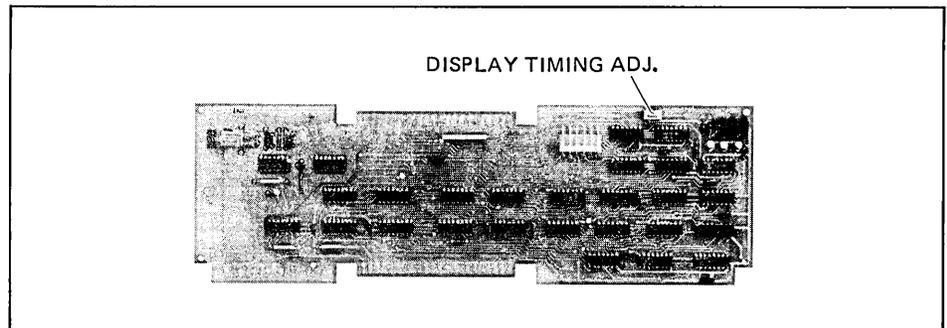

Figure 5-7. Display Timing PCA Timing Adjustment Location
1. With the terminal mainframe in its half open position and power applied to the terminal, locate the display timing adjustment (DOT potentiometer) (figure 5-7).